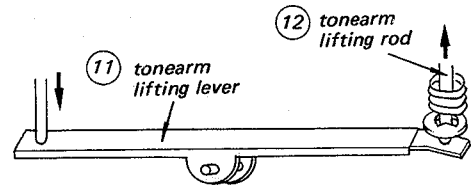

Fig. 1-5. Tonearm lifting lever movement
The main cam ⑧ rotates and moves the tonearm lifting lever ⑪, causing the tonearm lever ass'y ① to pivot and raise the tonearm lifting rod ⑫ as shown in Fig. 1-5.